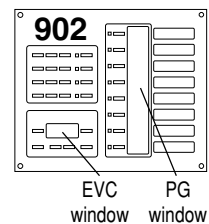

Figure 39.
- As each new group number appears in a PG window (Product Group, Figure 39), the EVC window counts up the number of modules in that group that can be recognized. Write down the highest number reported in the EVC window and the Group number with it. For each group, compare the reported module tally with a physical count of the modules. For example, your system has four “E Group 0” modules, six “E Group 4” modules, and three pairs of “S Group 4” modules. The top PG window displays “E0” as EVC scans up to 4 (good), the second PG window displays “E4” as EVC scans up to 5 (bad), and the third PG window displays “S4” as EVC scans up to 3 (good). In this case you would look for a mis-addressed, unplugged, or faulty E4 module (Electronics Group 4).